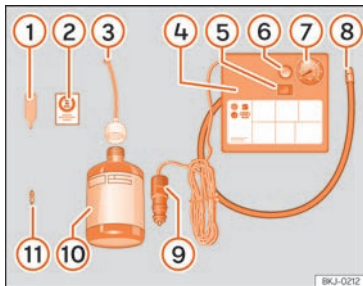

Fig. 32 Standard representation: anti-puncture kit contents.
The anti-puncture kit is located underneath the floor covering in the luggage compartment. It includes the following components » Fig. 32:
- Unscrew the tyre valve cap and insert. Use the » Fig. 32 ① tool to remove the insert. Place it on a clean surface.
- Shake the tyre sealant bottle vigorously » Fig. 32 ⑩.
- Screw the inflator tube » Fig. 32 ③ into the sealant bottle. The bottle's seal will break automatically.
- Remove the lid from the filling tube » Fig. 32 ③ and screw the open end of the tube into the tyre valve.
- Place the insert back into the tyre valve using the tool » Fig. 32 ①.
- Screw the compressor tyre inflator tube » Fig. 32 ⑧ into the tyre valve.
- Check that the air bleed screw is closed » Fig. 32 ⑥.
- Insert the connector » Fig. 32 ⑨ into the vehicle's 12-volt socket » page 151.
- Turn the air compressor on with the ON/OFF switch » Fig. 32 ⑤.
- Attach the sticker »» Fig. 32 ② to the instrument cluster, within the driver's visual field.
Screw the inflator tube »» Fig. 32 ⑤ again and check the pressure on the gauge ⑥.